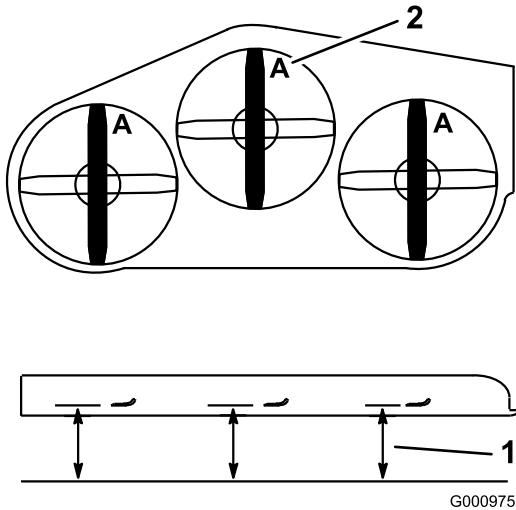
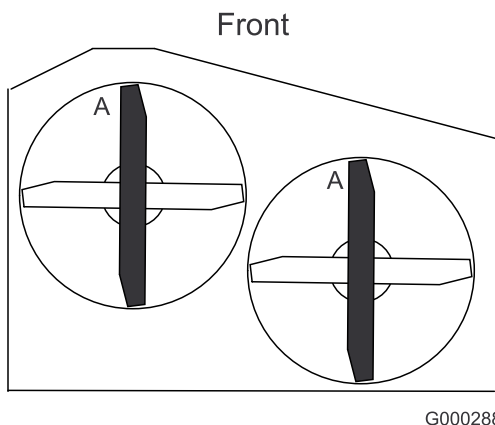

Figure 55
Figure 56
3. Rotate the blades until the ends face forward and backward. Measure from a level surface to the cutting edge, position **A**, of the blades (Figure 55). Note this dimension. For 36 inch mower decks use Figure 56.